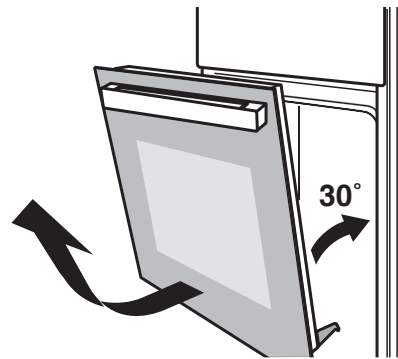

Fig. 2
2. Close the door to an angle approximately 30°. Hold the door with one hand on each side. Lift up and slowly pull the door out from the oven. Fig.2